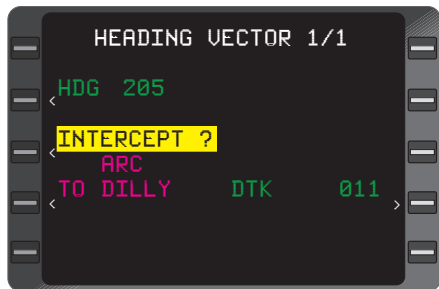

Figure 3-76
12. **BACK** Key - DEPRESS to display **INTERCEPT?** (Figure 3-76)